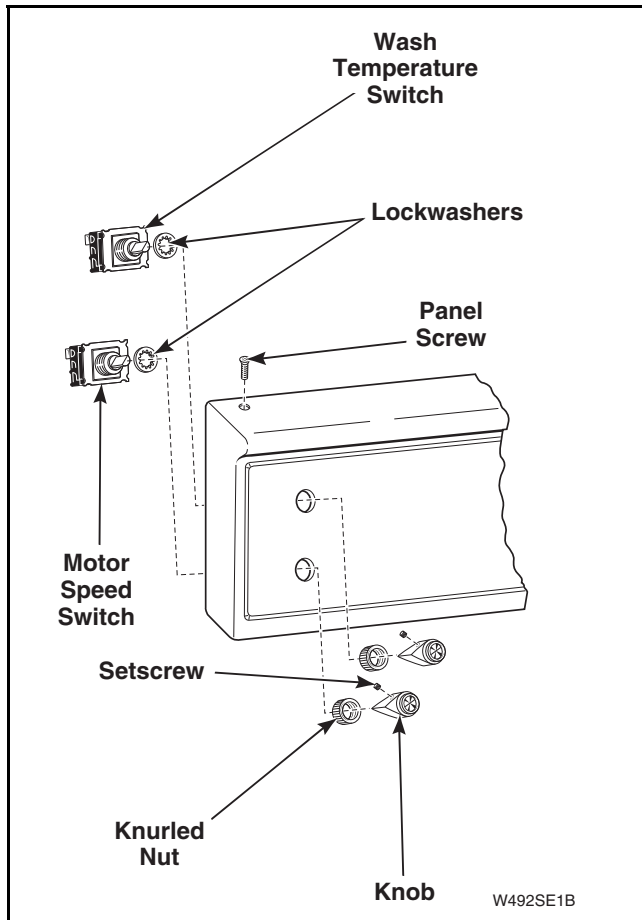

Figure 26
- Loosen setscrew holding switch knob to switch shaft. Refer to *Figure 26*.
- Remove knurled nut holding switch to control panel. Refer to *Figure 26*.